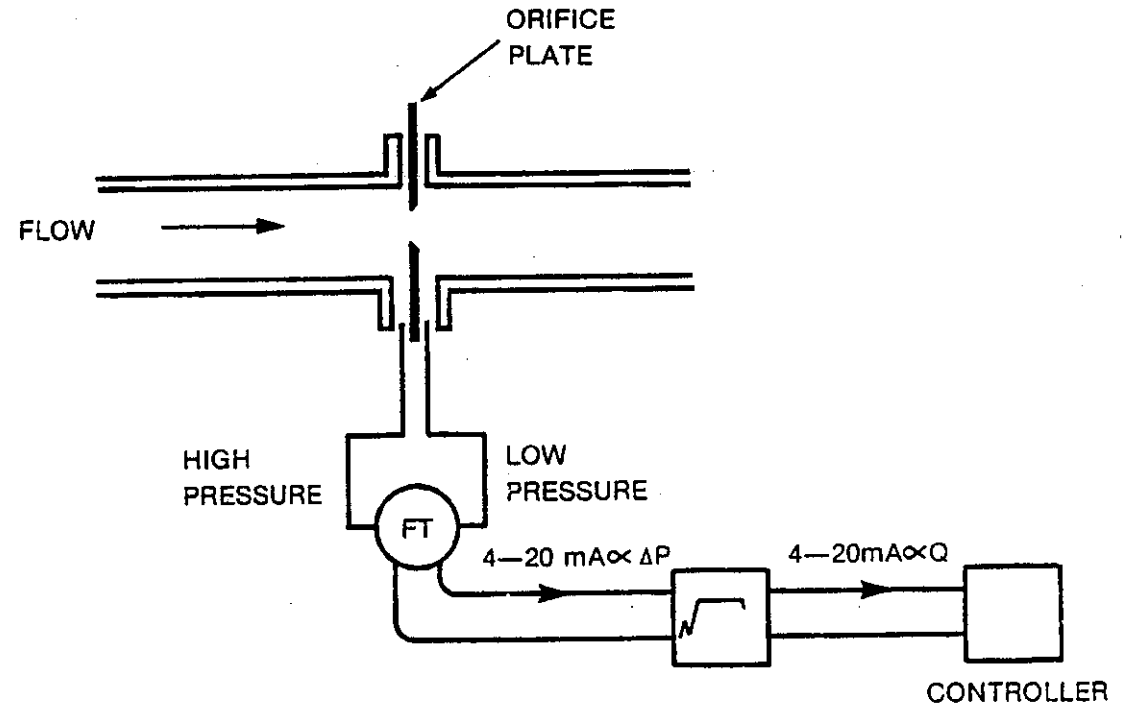

Figure 19: A Typical Square Root Extractor Installation.
A typical square root extractor installation is shown in Figure 19.
- The signal from the square root extractor usually goes to a controller, as shown in Figure 19.